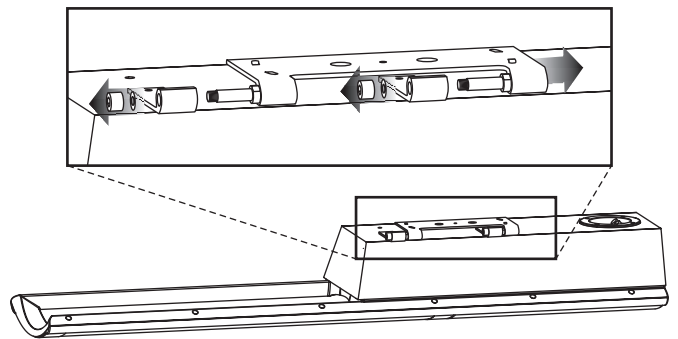

Figure 3. Removing the Script i wall bracket from the cabinet.
- 2 Starting with one speaker, prepare a flat surface with padding and sheets to protect the speaker as you work on it. Carefully place the Script i face down on the work surface, using books or pieces of cardboard to keep the speaker from rocking. Using a 6mm Allen tool remove the 2 cap nuts and washers located on top of the cylindrical hinges and place them aside (do not reinstall the cap nuts). Carefully remove the wall bracket from the cabinet by sliding it towards the bottom of the speaker. Please note that the 2 long narrow cabinet brackets **DO NOT** need to be removed from the Script i cabinet (see figure 3).
- 1 Prepare a flat surface with padding and sheets to protect the speaker as you work on it. Carefully place the Script i face down on the work surface, using books or pieces of cardboard to keep the speaker from rocking. Using a 6mm Allen tool remove the 2 cap nuts located on top of the cylindrical hinges and place them aside. Carefully remove the wall bracket from the cabinet by sliding it towards the bottom of the speaker (see figure 3).